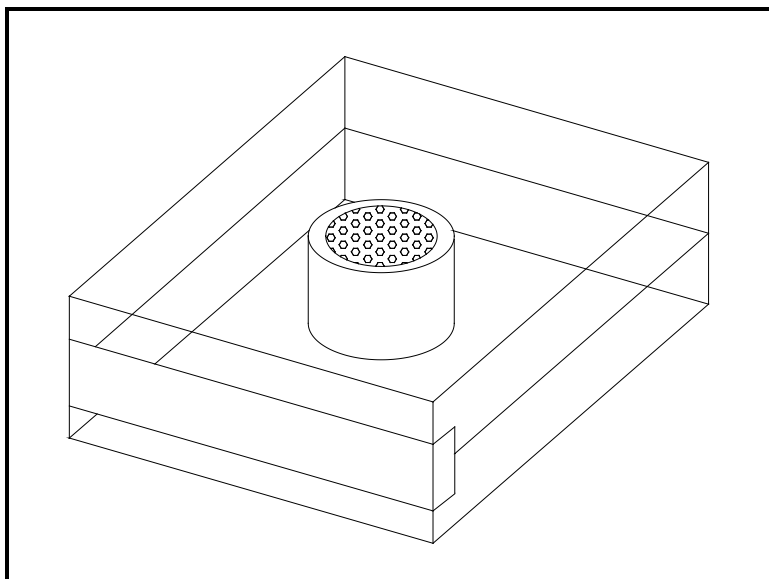

Figure 3: Packaged Oxygen Sensor
1. Remove the oxy.IQ and the separately-packaged oxygen sensor (see *Figure 3* below) from the shipping container. Keep the shipping container and packaging material for possible future use.
5. Open the airtight package (see *Figure 3 on page 6*) and remove the oxygen sensor from the package. To maintain the oxygen sensor's energy level, remove the red grounding tab and **immediately** proceed to the next step.